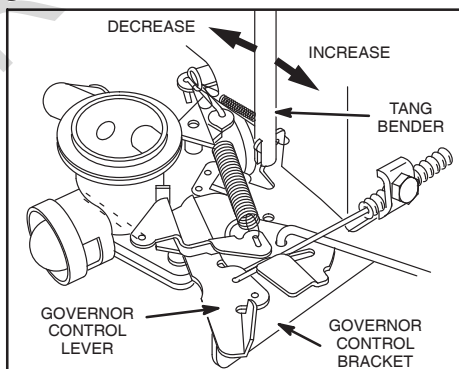

Fig. 5 - Secondary Spring Adjustment
3. Using Tool #19229 or 19352, Tang Bender, bend secondary governor spring tang until there is no tension on secondary spring, Fig. 5.
5. Bend secondary governor spring tang until "TOP NO LOAD" RPM is obtained, Fig. 5.